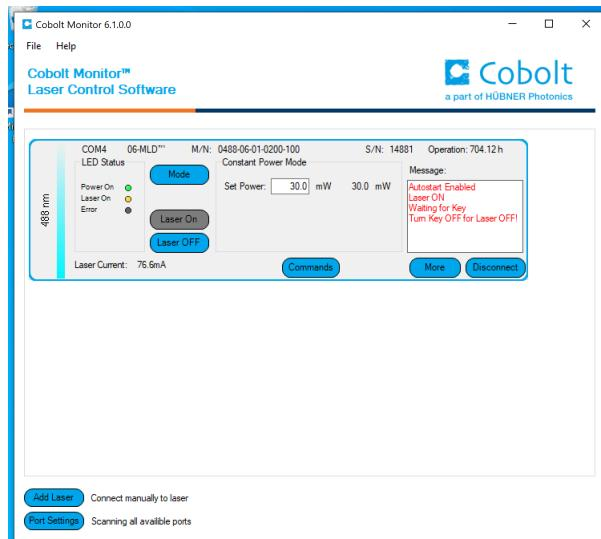

Figure 14
- (a) Open the Cobolt Monitor, the Lens Driver Controller and the Zaber Console. Figure 14 shows the software and what it should look like when well connected.